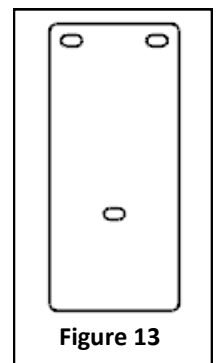

Figure 13
- b. Align the four (4) slots on the narrow section of the plastic panel with the four (4) pre-existing holes on the sheet metal.
- c. Insert a rivet (**Rivet 1**) through each of the slots that line up with pre-existing holes. **NOTE:** There will be a total of five (5) slots on each upper pillar panel that line up with pre-existing holes in the sheet metal.
- a. Orient the **DVP012** panel as shown in **Figure 13** and position it on the lower section of the driver side pillar. The plastic panel should lay flat on the lower pillar sheet metal and the top edge of the panel should be pushed up to where the sheet metal is angled.
- b. Mark the center of each of the three (3) slots in the panel and remove it from the sheet metal.
- d. Reposition the panel in place and insert a rivet (**Rivet 2**) into each of the three (3) slots, securing the panel in place.